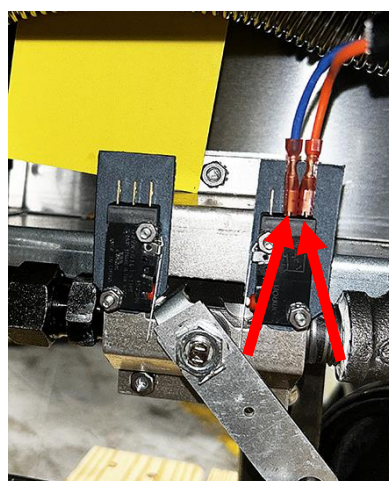

Figure 13
20. Attach the orange and blue wires from one end of the harness to the rear switch on the dispose assembly. Ensure the wires are attached to the two rear terminals on the switch as shown (see Figure 13).